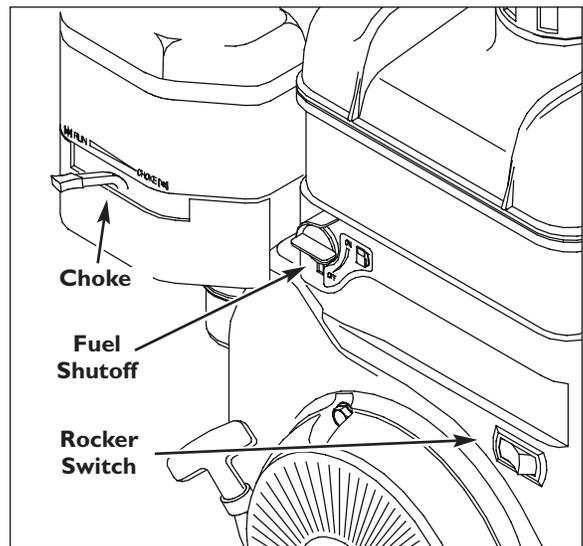

Figure 7 - Engine Controls
- Rotate fuel shut-off valve (Figure 7) fully counterclockwise (1/4 turn).
- Move choke lever (Figure 7) fully to the right (the "CHOKE" position).
- Push engine rocker switch (Figure 7) to the "ON" position.
- Push engine rocker switch (Figure 7) to the "OFF" position.
- Rotate fuel shut-off valve (Figure 7) fully clockwise (1/4 turn).